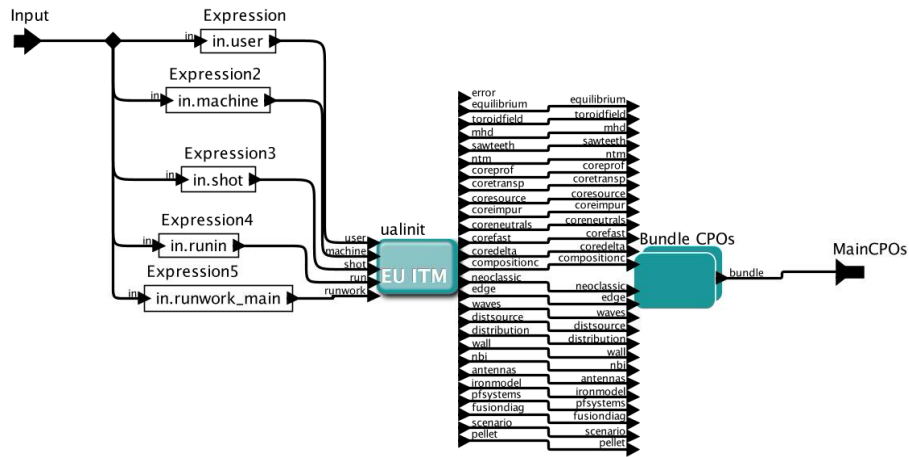

Figure 5. The UAL_read_main_CPOs composite actor, part of UalGetCpoBundle .
- The second actor reads all the main CPOs from the input run number `InputRunNumber` and is called `UAL_read_main_CPOs` (see figure 5).